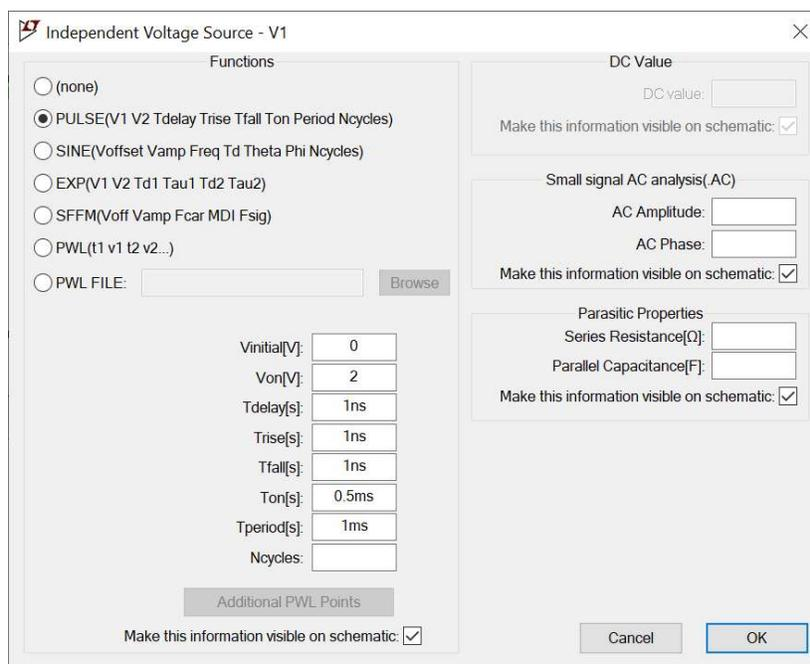

Figure A-8. Square Wave Voltage Source Options
- We will generate a square wave pulse with a 1kHz frequency (1ms period), maximum voltage of 2V, minimum voltage of 0V and 50% duty cycle (half the time v_{max}, half the time v_{min}). To make LTspice behave well, we will also need to set up some of the other options. The full setup is shown in Figure A-8.